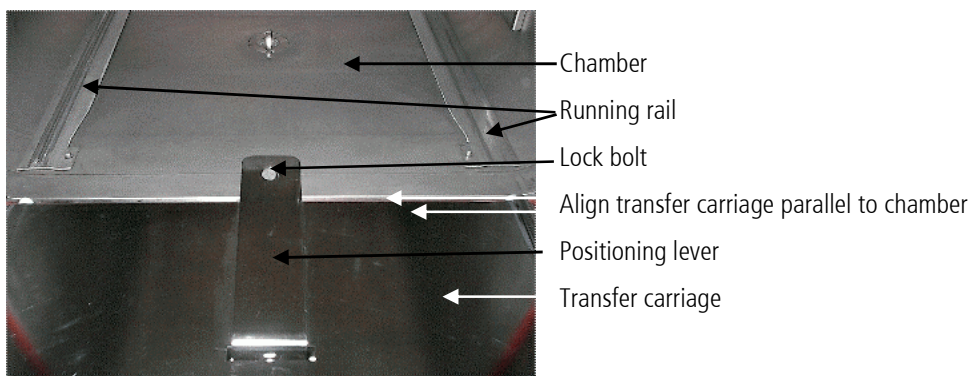

Figure 6-6: Align transfer carriage with chamber
- Align the front end of the transfer carriage with the end of the sterilizer (refer to Figure 6-6)